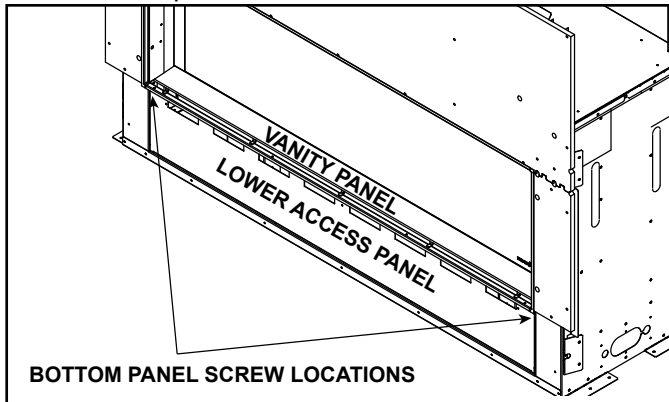

Figure 8.1 Lower Access Panel Location
1. Remove bottom metal panel by removing two screws. Screw locations are shown in Figure 8.1. After removing two screws, “gently lift slightly and then hinge the bottom panel downward.